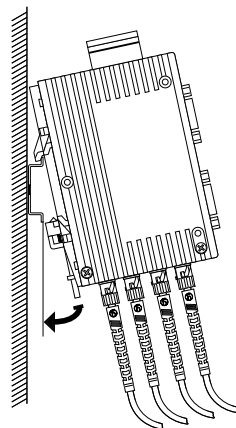
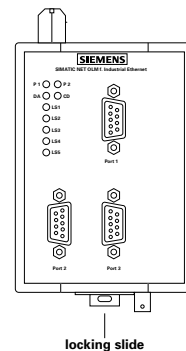

Fig. 7: Assembling the OLM/ELM
Fig. 8: Dismantling the OLM/ELM
- Suspend the upper snap-in hook of the OLM/ELM in the standard bar, insert a screwdriver horizontally under the housing into the locking slide pull this downwards (cf. Fig. 8, Dismantling) and press the bottom of the module onto the standard bar until it locks in position (Fig. 7).
To take the OLM/ELM off the standard bar, insert a screwdriver horizontally under the housing into the locking slide, pull it (without tipping the screwdriver) downwards and fold the OLM/ELM upwards (Fig. 8).